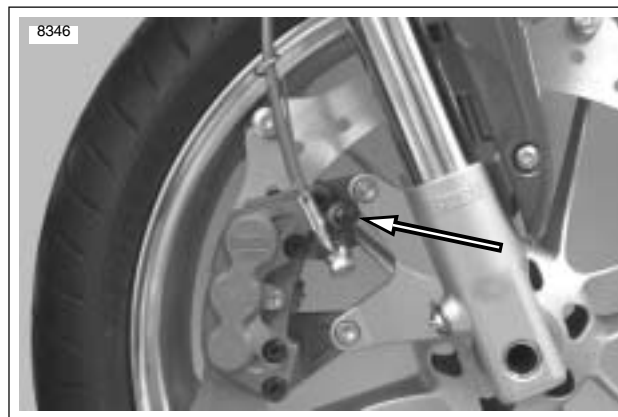

Figure 1-7. Front Caliper Bleeder Valve
1. See Figure 1-7. With motorcycle in upright position, install end of plastic tubing over front caliper bleeder valve; place other end in a clean container.